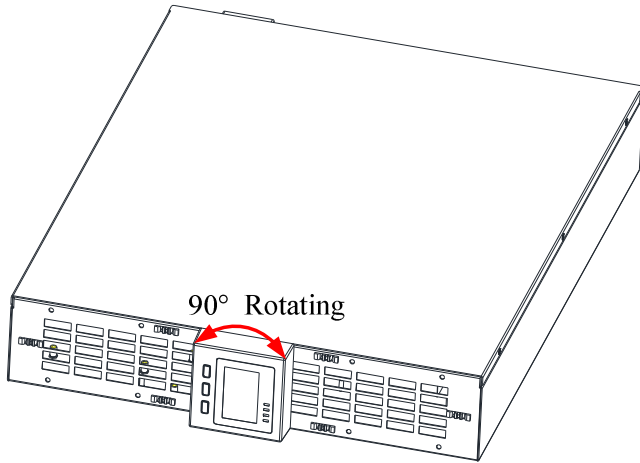

Fig.2-4 Rotating the operation and display panel
2. Pull the operation and display panel gently, rotate it 90 degrees clockwise (1/1) or anticlockwise(3/1) and snap it back into position, as shown in Fig.2-4